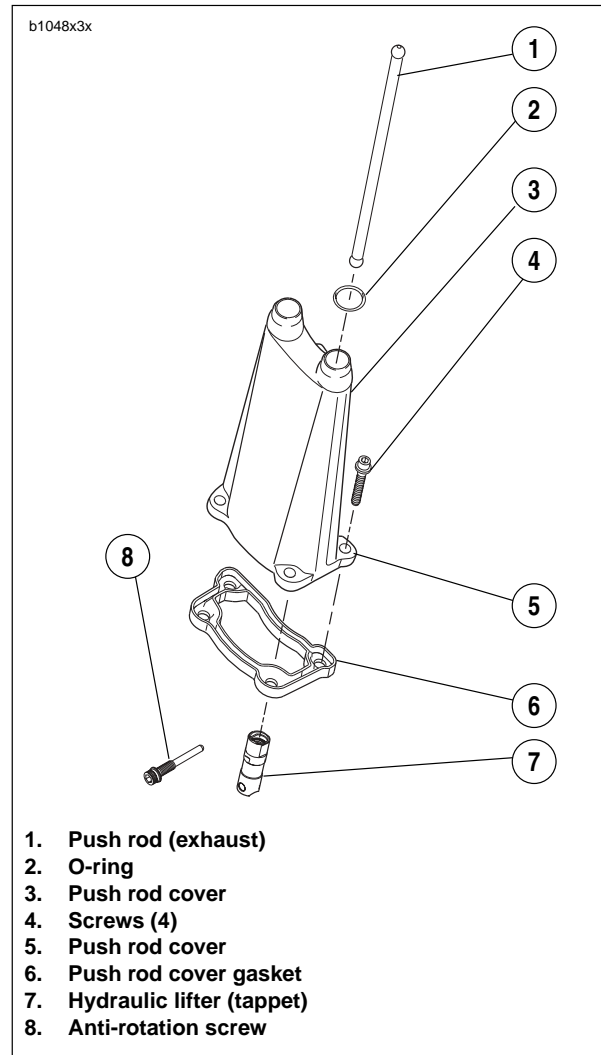

Figure 3-125. Valve Lifter Service
3. See Figure 3-125. Remove push rod covers.
3. See Figure 3-125. Insert lifter into bore in crankcase. Rotate lifter so that flats at upper end of lifter face the front and rear of the engine. If the lifter is installed incorrectly, anti-rotation screws cannot be inserted.
5. See Figure 3-125. Install push rod cover.
- a. Place **new** push rod cover gasket (6) over bottom of push rod cover.
- c. Install screws (4) through holes in push rod cover into tapped holes in crankcase. Tighten screws evenly to 30-40 **in-lbs** (3-5 Nm).
- d. Place **new** o-rings (2) on top of push rod cover (3).